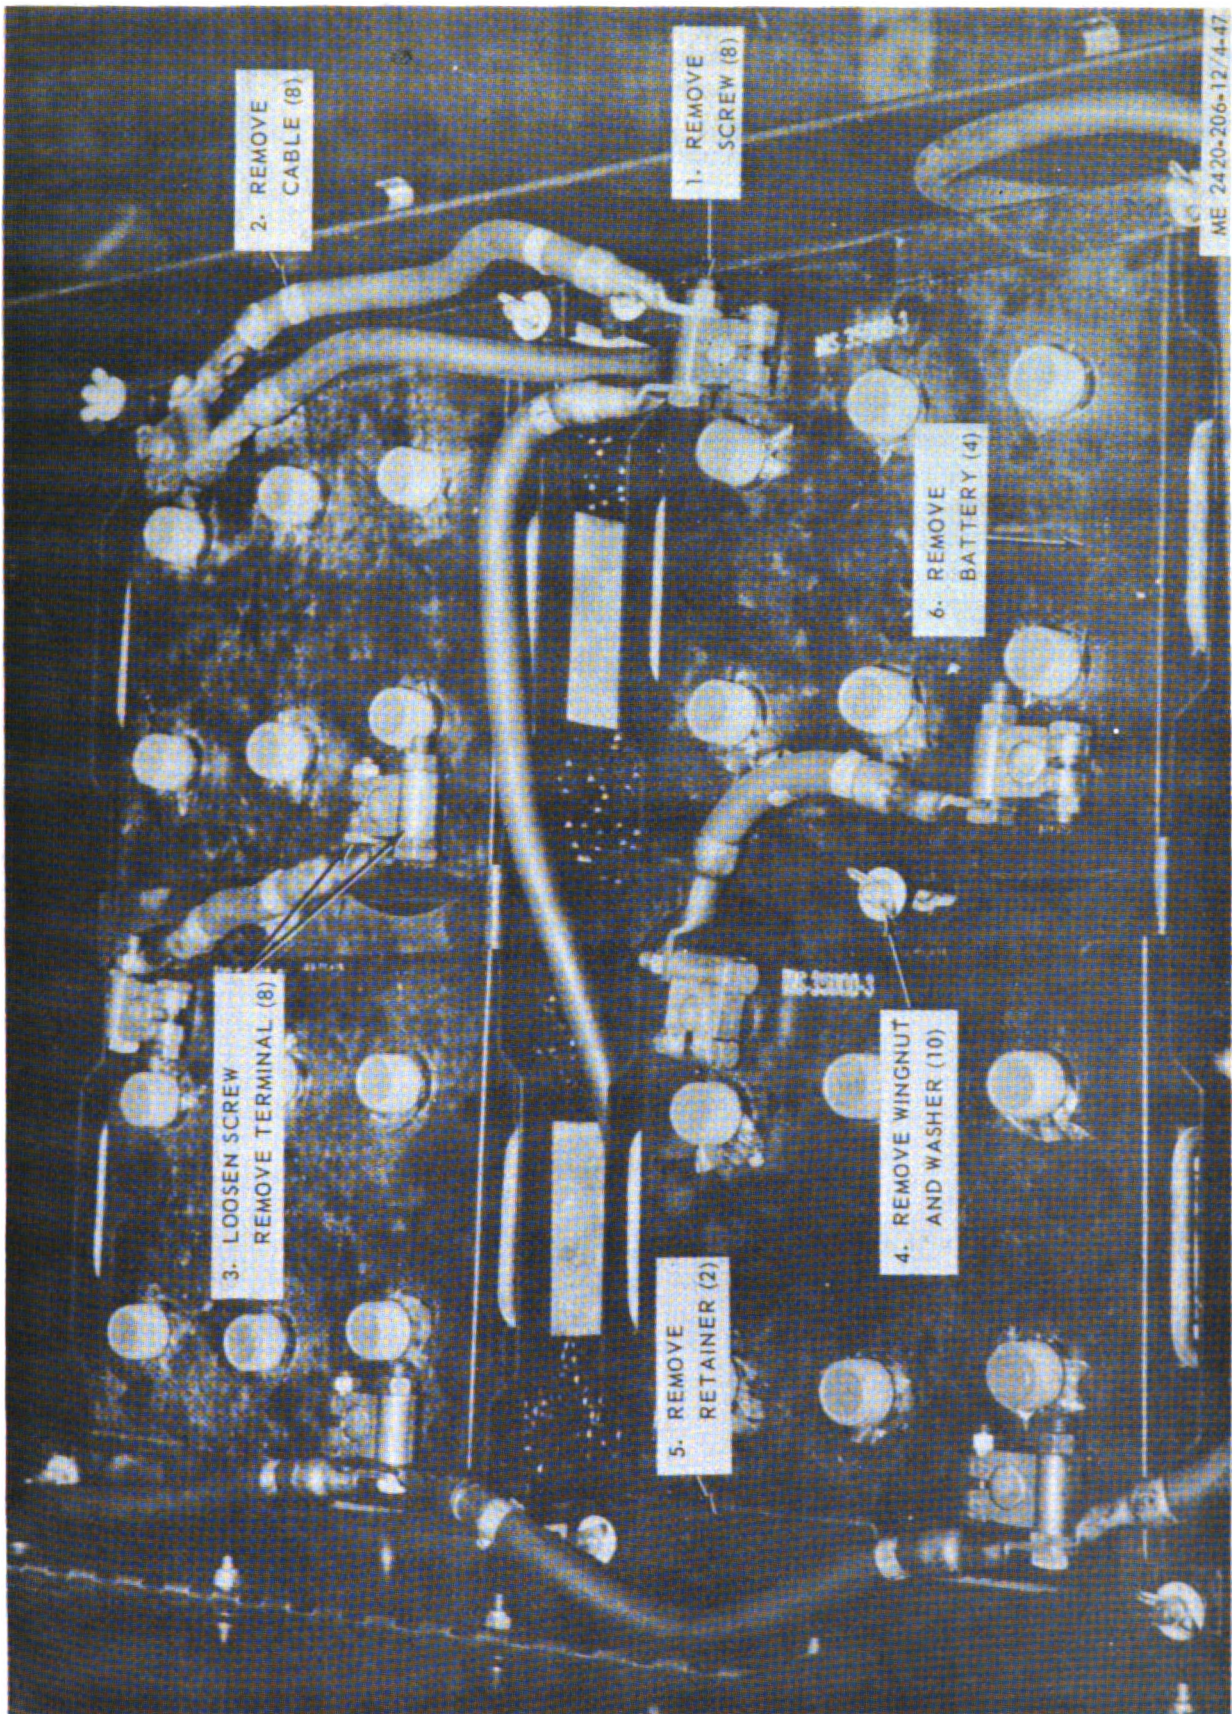

Figure 4-47. Batteries, removal and installation.
a. *Removal.* Remove batteries as illustrated in figure 4-47.
(1) Flush top of battery with mild solution of bicarbonate of soda. Wipe batteries with a cloth. Clean cable terminals and battery posts with emery cloth; coat lightly with grease. Inspect level of electrolyte, Table 3-1.
(2) Inspect for cracks, breaks and other damage.
(3) Test for specific gravity reading.
c. *Installation.* Install batteries as illustrated in figure 4-47.